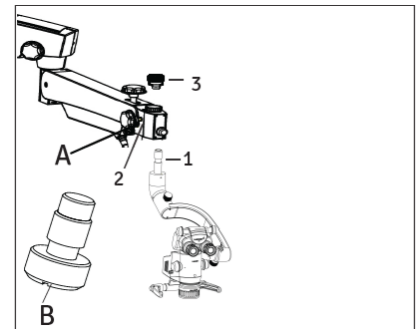

Fig. 39
4. Retrieve the inclined coupler with magnichanger from the packing and follow as below referring Fig.39.
- Install the coupling to the suspension arm by sliding the guiding shaft (1) into the suspension arm.
- Lock the inclined coupling with the threaded plug (3).
CAUTION: Make sure that safety screw (B) must tight in place at position (2) to avoid sudden falling of the coupling. Safety Screw always tied with the Carrier arm locking knob A. Fig. 39